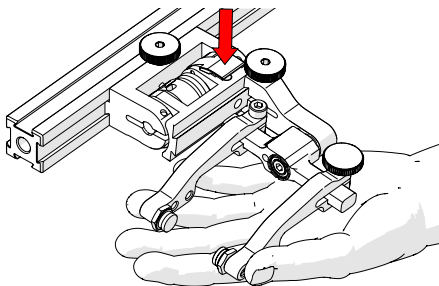

Fig. 162 - Lift slightly and press Latch
2. Lift the probe holder slightly and press the latch button (Fig. 162) to release the probe holder the full 45° degrees.